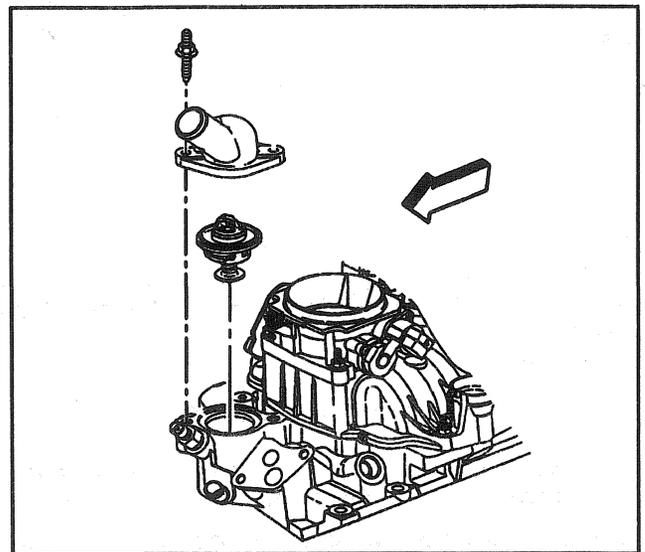

Figure 22—Thermostat and Components (4.3L Engine)
**Remove or Disconnect (Figures 22 through 24)**
**Install or Connect (Figures 22 through 24)**